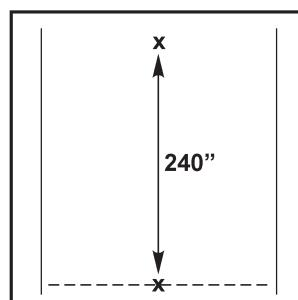
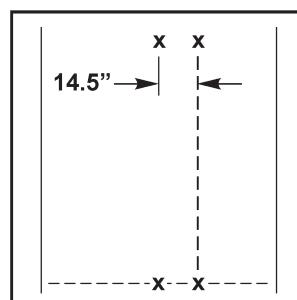
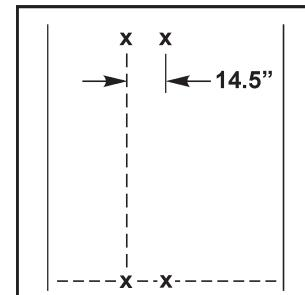

Figure 58
Figure 59
Figure 66
- Find and mark the center of the lane at the base and 240 inches above the base (see Figure 58).
- Measure 14.5 inches to the RIGHT of each center point in Figure 58, and snap a vertical chalk line (see Figure 59).
- Measure and mark 14.5 inches to the **LEFT** of each center mark in Figure 58 and snap a vertical chalk line (see Figure 66).